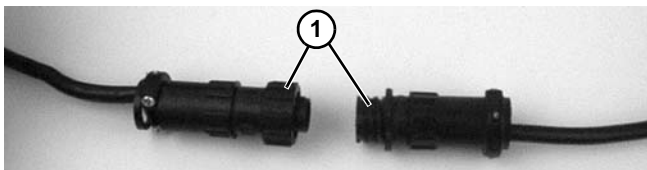

Figure 36
3. For DC variable speed motor, unplug motor cord at disconnect (Figure 36, item 1).